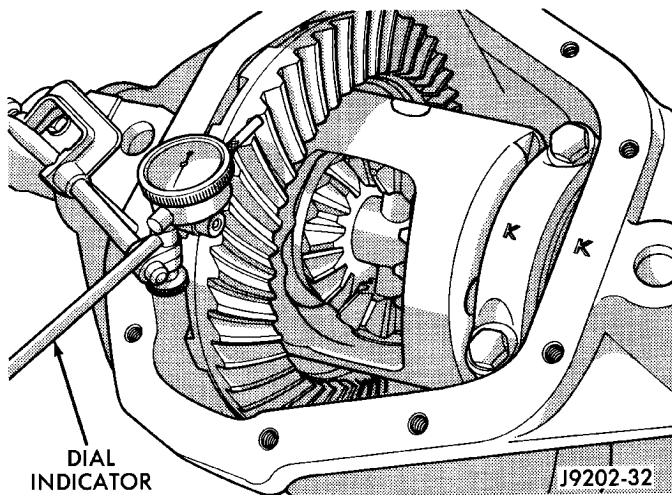
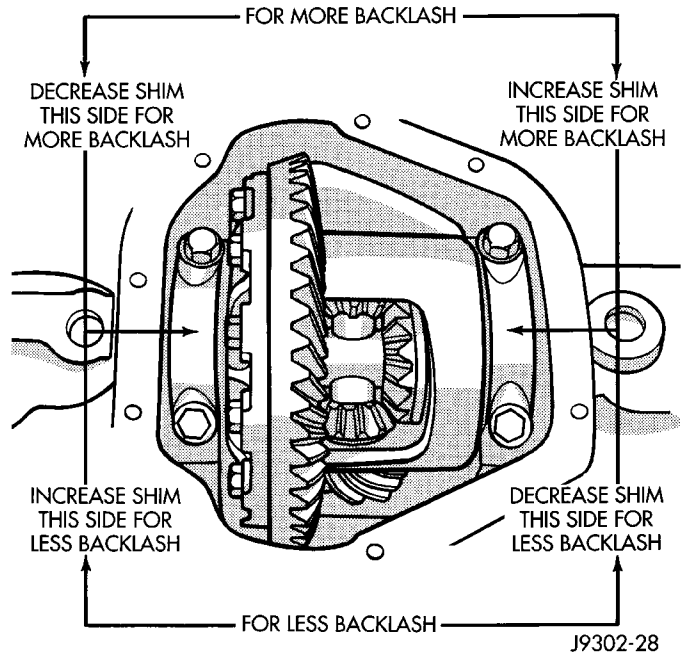

Fig. 76 Ring Gear Backlash Measurement
Fig. 77 Backlash Shim Adjustment
(26) Rotate dial indicator out of the way on guide stud.
(27) Remove differential case and dummy bearings from axle housing.
(28) Install new side bearing cones and cups on differential case.
(29) Install spreader W-129-B on axle housing and spread axle opening enough to receive differential case and side bearing shims.
(30) Place side bearing shims in axle housing against axle tube ends.
(31) Install differential case in axle housing.
(32) Remove spreader from axle housing.
(33) Rotate the differential case several times to seat the side bearings.
(34) Position the indicator plunger against a ring gear tooth (Fig. 76).
(35) Push and hold ring gear upward while not allowing the pinion gear to rotate.
(36) Zero dial indicator face to pointer.
(37) Push and hold ring gear downward while not allowing the pinion gear to rotate. Dial indicator reading should be between 0.12 mm (0.005 in.) and 0.20 mm (0.008 in.). If backlash is not within specifications transfer the necessary amount of shim thickness from one side of the axle housing to the other (Fig. 77).
(38) Verify differential case and ring gear runout by measuring ring to pinion gear backlash at several locations around the ring gear. Readings should not vary more than 0.05 mm (0.002 in.). If readings vary more than specified, the ring gear or the differential case is defective.